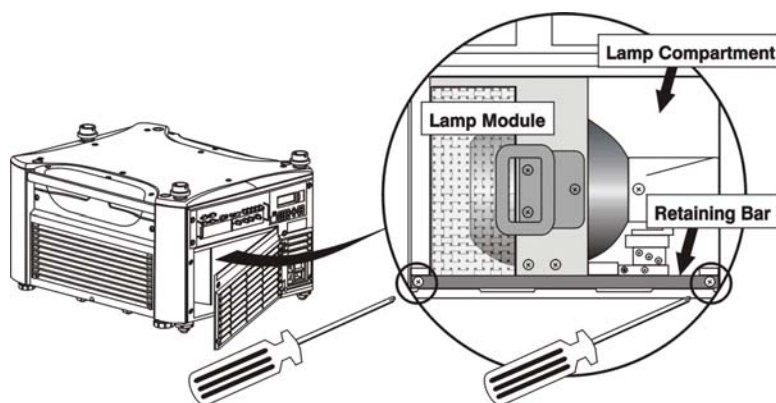

Figure 4.3. Remove Retaining Bar
Remove the two (2) screws that secure the retaining bar along the bottom edge of the lamp module using a #2 Phillips screwdriver. See Figure 4.3. Swing the bar aside—it is hinged on the left.